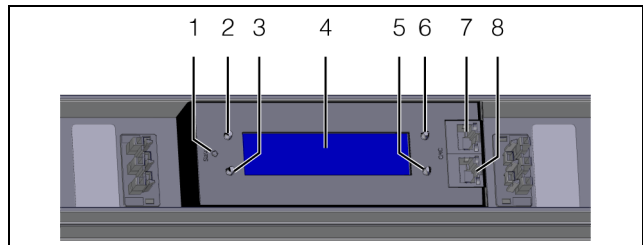

Fig. 6: Display and operating elements
The display direction and the assignment of the four keys at the side next to the display depends on the installation direction of the PSM metering bar. The legend for fig. 6 shows the key assignment for the installation case when the electrical connection of the PSM metering bar is at the bottom. If the PSM metering bar is installed so that the electrical connection is at the top, the assignment of keys 2 and 5 as well as 3 and
A multi-LED for the status display (fig. 6, item 1) is located on the front of the PSM metering bar to the left of the centre main display. Further LEDs are located on the CAN bus connection (fig. 6, items 7 and 8). All LEDs flash briefly once when connection is established to the CMC III Processing Unit.
- For switched-off display, press the "Return" key (fig. 6, item 3).
- Select with the "down" key on the main screen the **Circuit 1** or **Circuit 2** menu for the PSM metering bar 16 A (DK 7859.050) or **Fuse 1** or **Fuse 2** for the PSM metering bar 32 A (DK 7859.053) (fig. 6, item 5).
- Keep the "Esc" key pressed (fig. 6, item 2).
- Also press the "Down" key for approx. 3 seconds (fig. 6, item 5).
- Use the "Down" key to select the "Yes" row and press the "Return" key to confirm the selection (fig. 6, item 3).